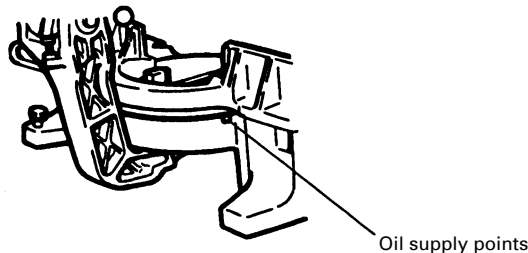

Fig. 28
- *Rotary portion of turntable and base (See Fig. 28)